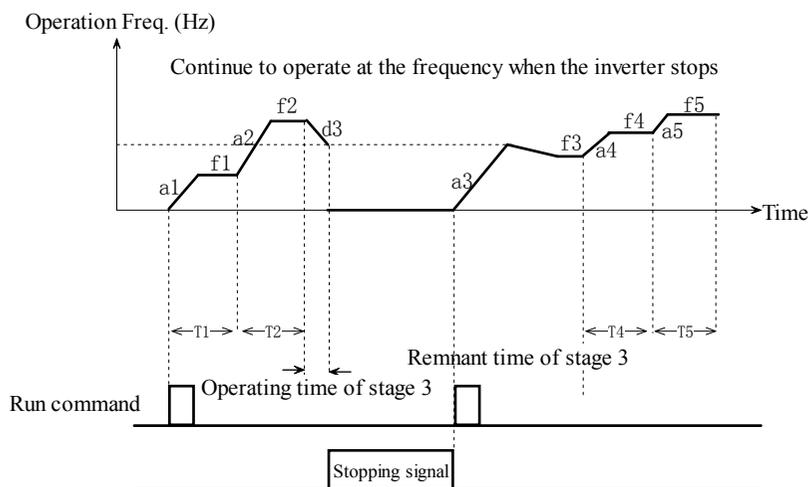

Fig. 5-5-5 PLC start mode 2
- ◆ When the inverter stops during PLC operation because of receiving STOP command or fault, it will record the operating time and the current frequency. It will continue running at the recorded frequency after restart, as shown in Fig. 5-5-5.